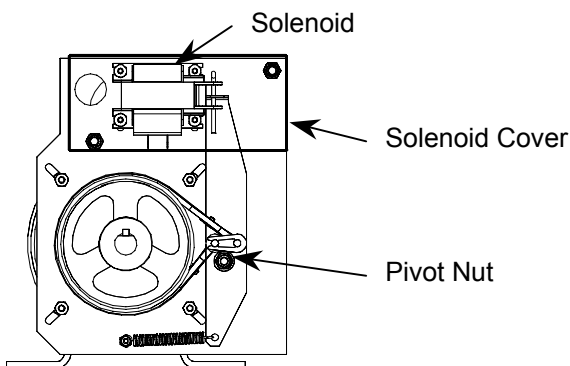

Figure 20 Brake system
1. Remove the solenoid cover (Figure 20).
2. Slightly unscrew the pivot nut (Figure 20).